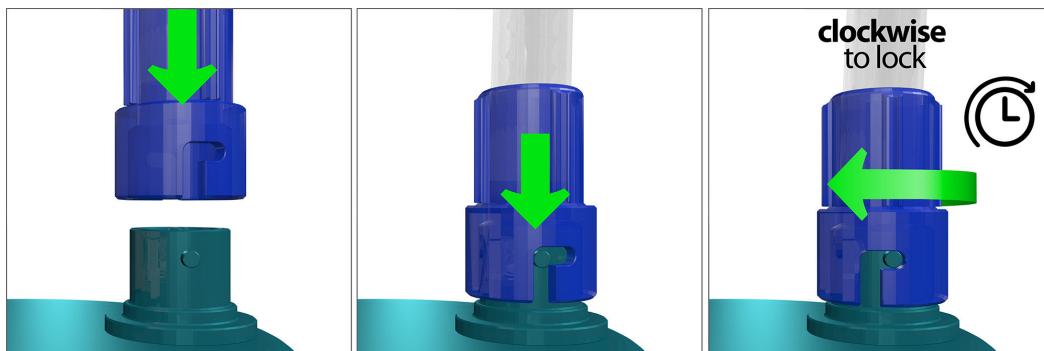

Figure 15
2. Gently line up the blue Twist N' Connect™ end of the tubing to the blue Twist N' Connect™ port on the canister, push down and twist clockwise to lock into place (**Figure 15**).